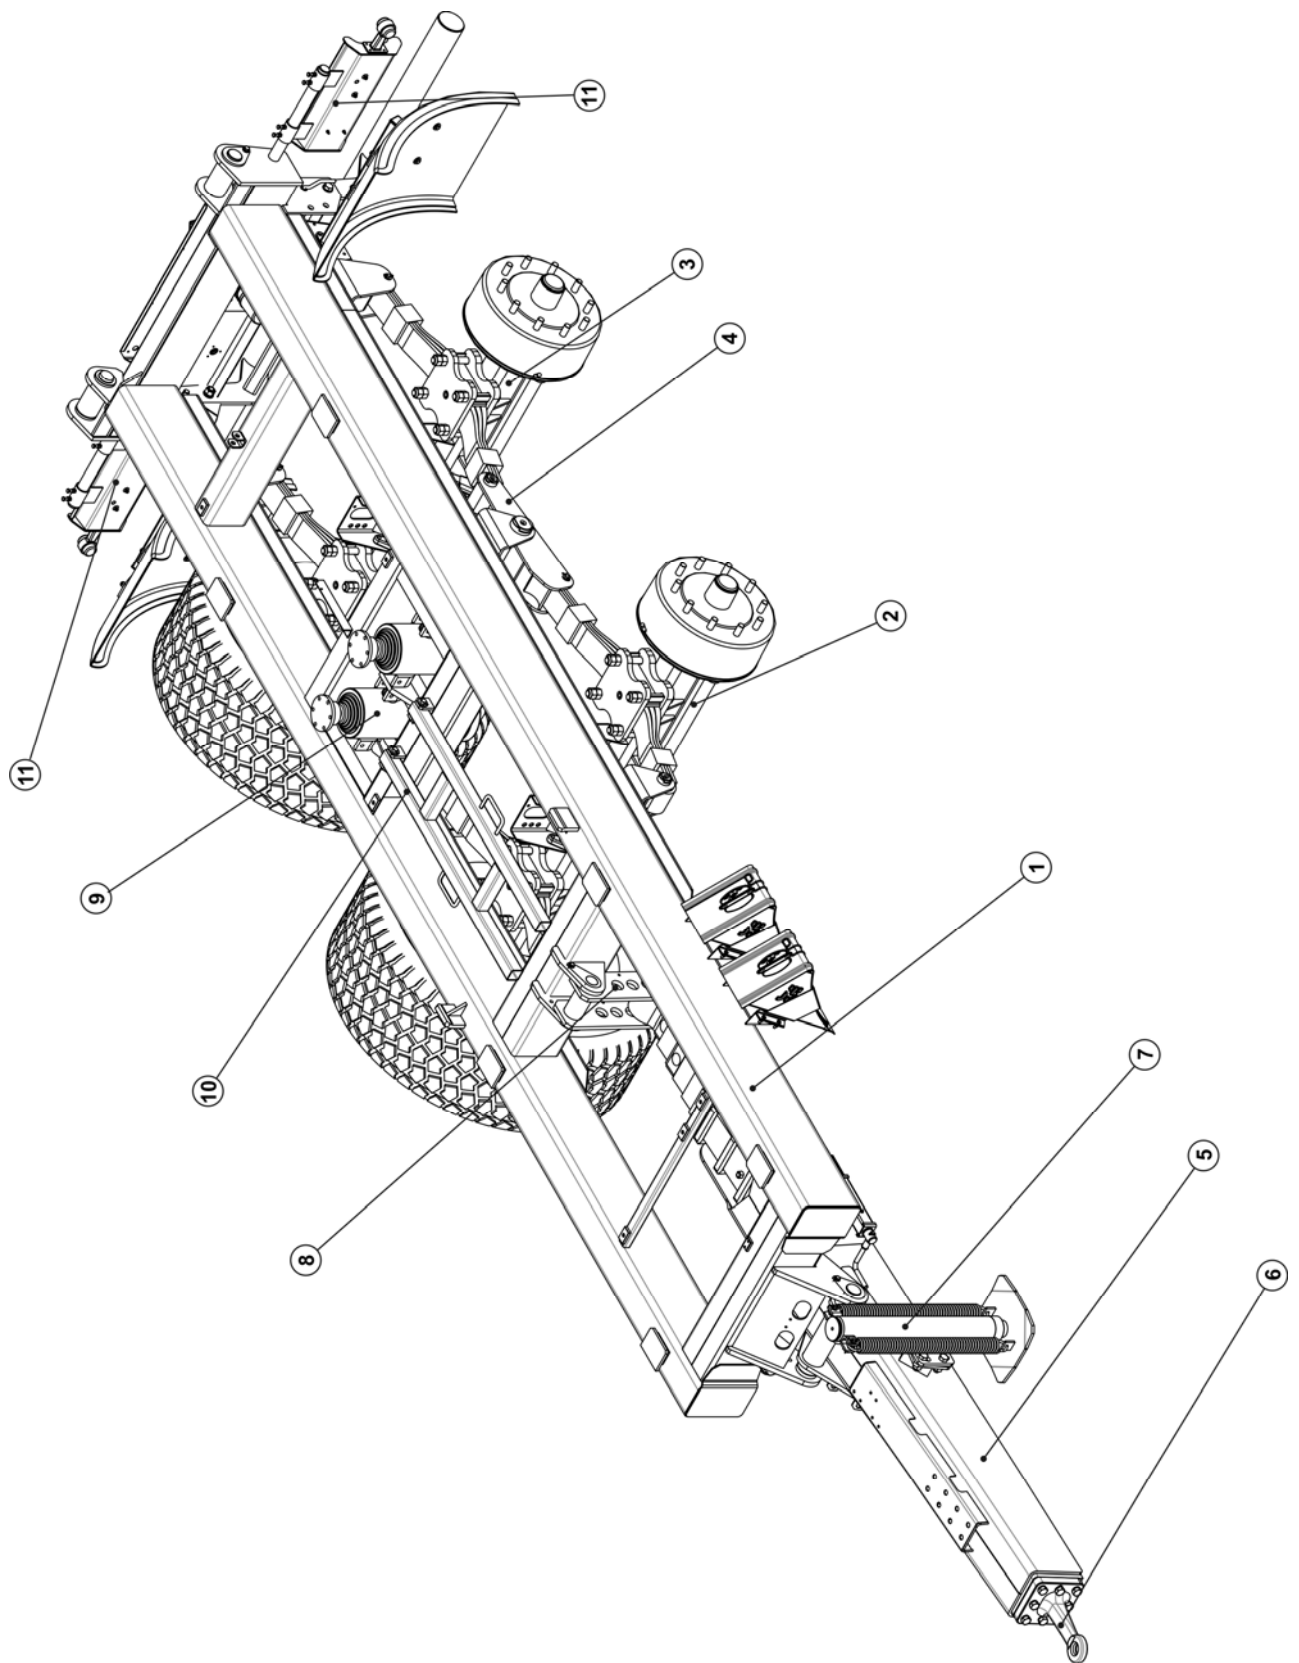
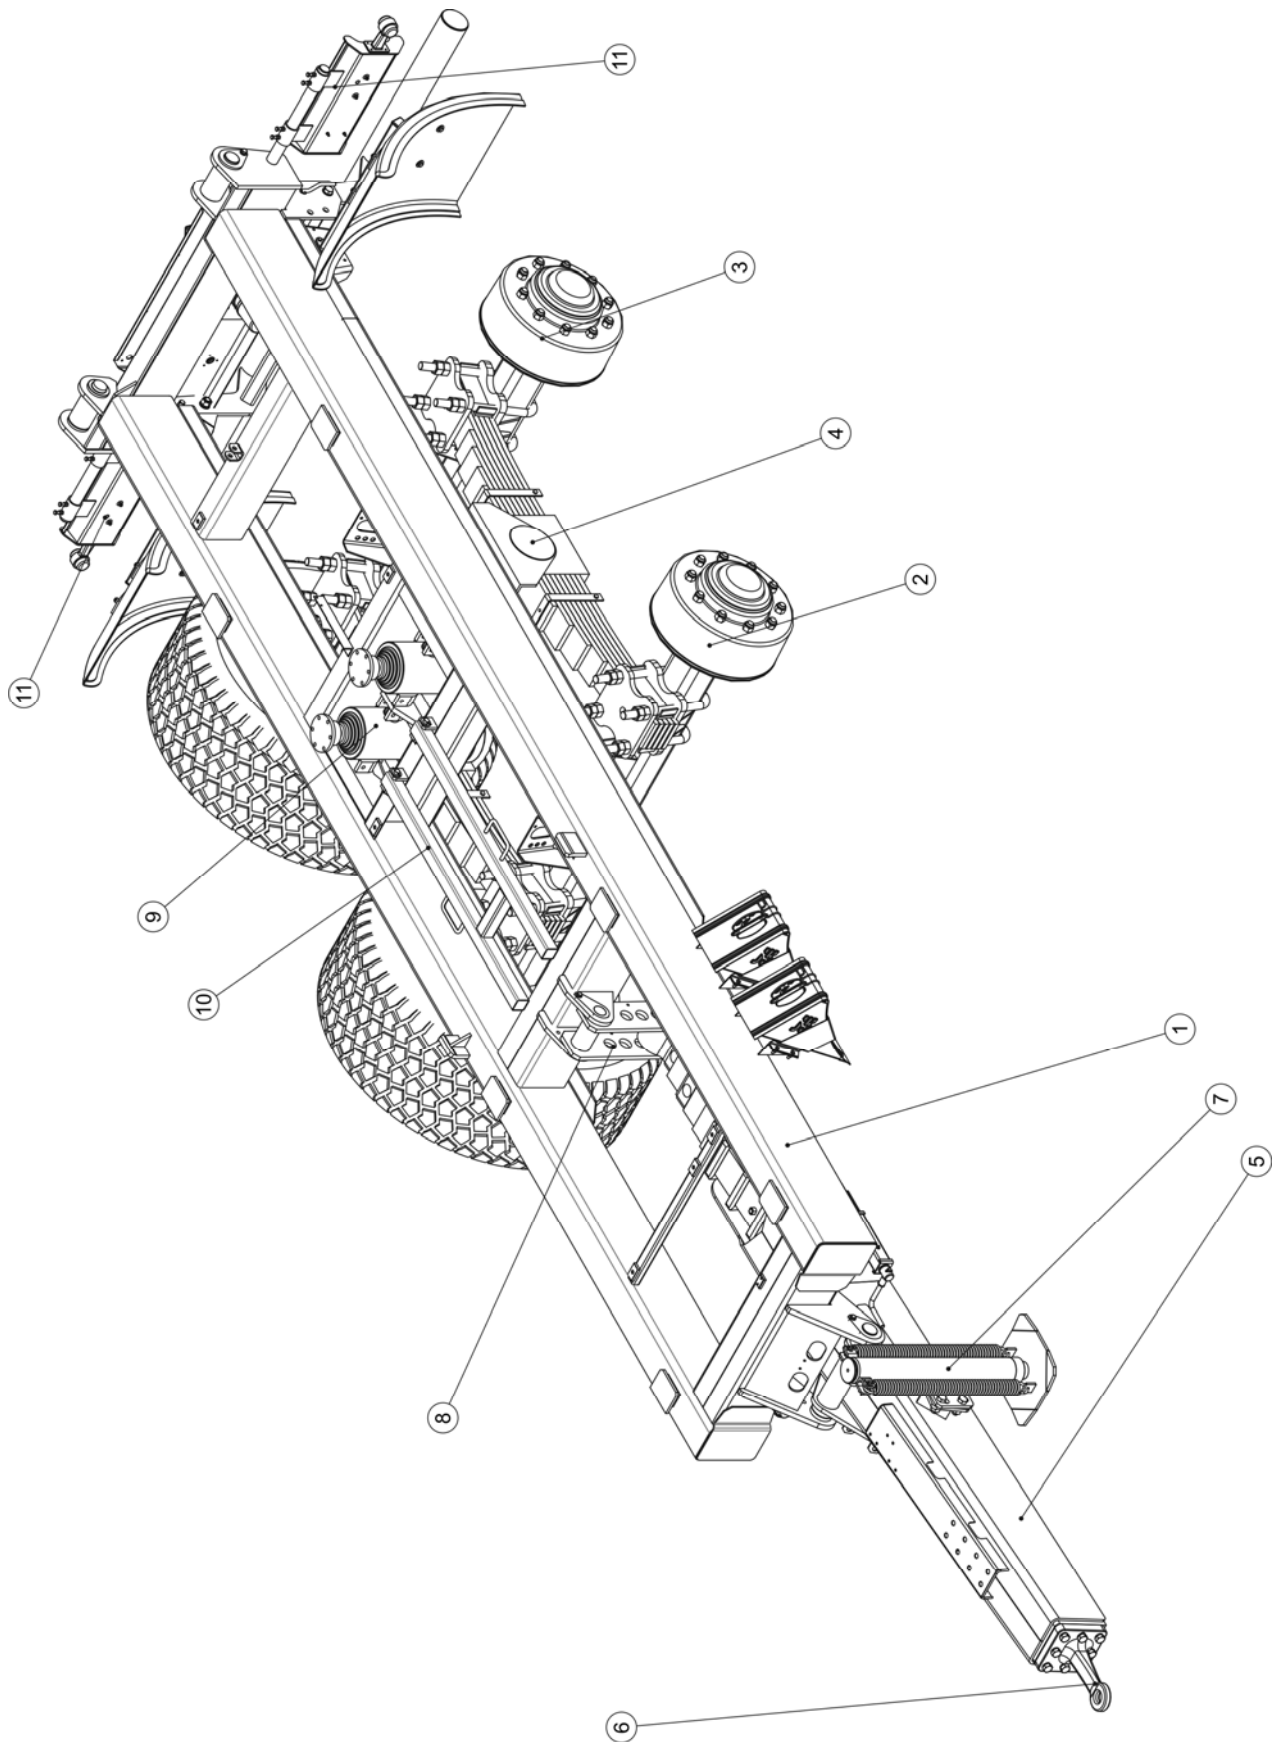

FIGURE 5 CHASSIS WITH THE TANDEM TYPE SUSPENSION
FIGURE 6 CHASSIS WITH THE BOGIE TYPE SUSPENSION
The chassis of the trailer T701 may be manufactured in two versions – with the tandem type suspension (figure 5) and with the bogie type suspension (figure 6). The lower frame (1) is a welded structure of steel sections. The basic bearing elements are two longitudinal members connected with cross-bars between them. In the middle part there is socket appropriated for seating of 2 hydraulic servomotors (9) of the dump of the load carrying body.
In the rear part of the frame there is the wheel set of the tandem type (figure 5, item (4)) or of bogie type (figure 6, item (4)) and elements of the rear lighting assembly (11).